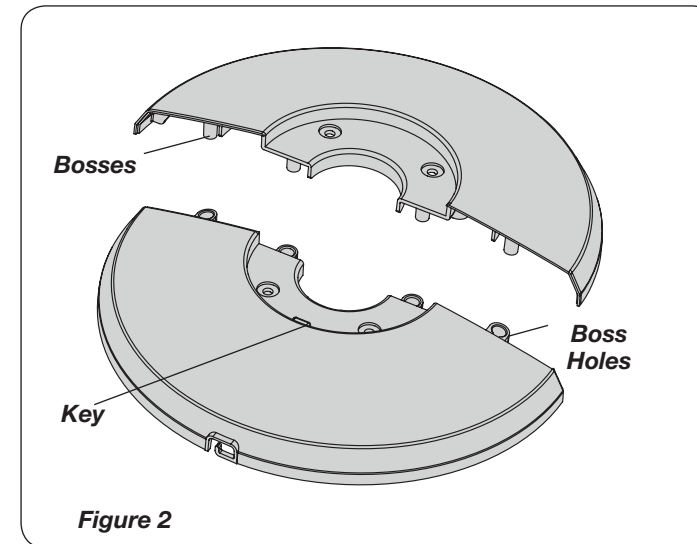

Figure 2
- Assemble the Base by interlocking the **Bosses** into the **Boss Holes**. (Figure 2)